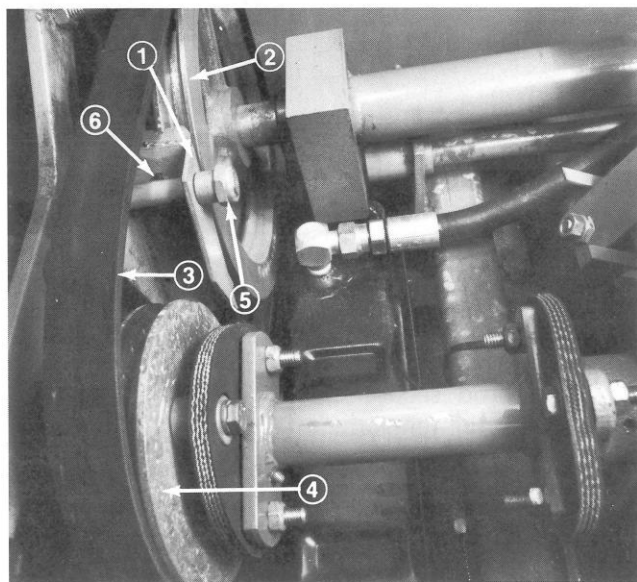

Figure 51
3. Move PTO lever to the ON position and remove PTO brake (Fig. 51).
4. Move PTO lever to the OFF position to release tension on the belt. Roll old belt off engine pulley and PTO pulley (Fig. 51).
2. Move PTO lever to ENGAGE position. Loosen adjusting locknut (Fig. 51) so brake is free to move. Then move PTO lever to OFF and position the brake in grooves of pulley.
3. Remove locknut holding brake on mounting pin, and slide spacer, brake and spring off the pins (Fig 51).